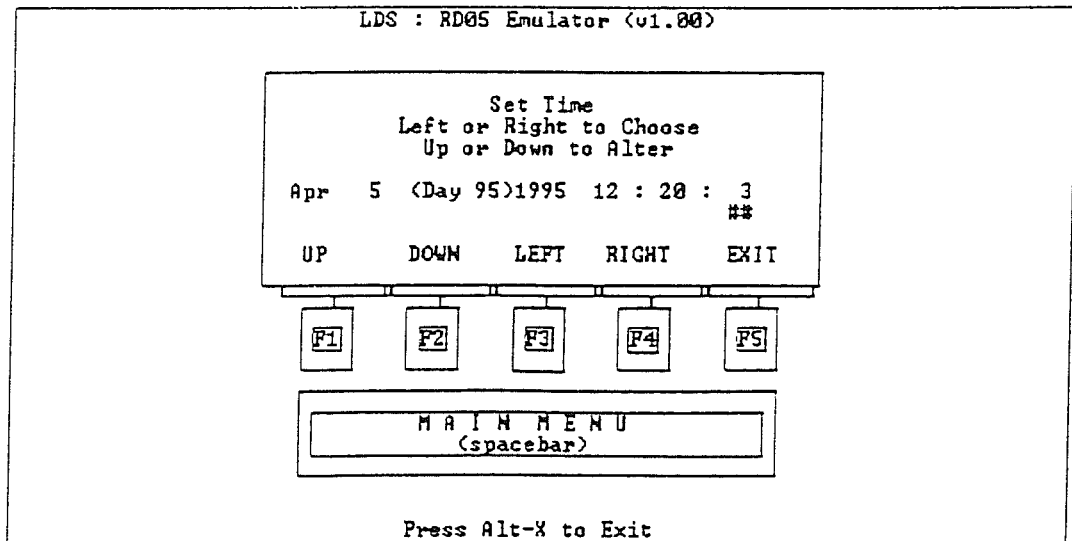

Figure 7-5
2. You will now have the complete station time in a spread-out format (Figure 7-5, above). Note the double crosshatch ("##") under the seconds. This is the